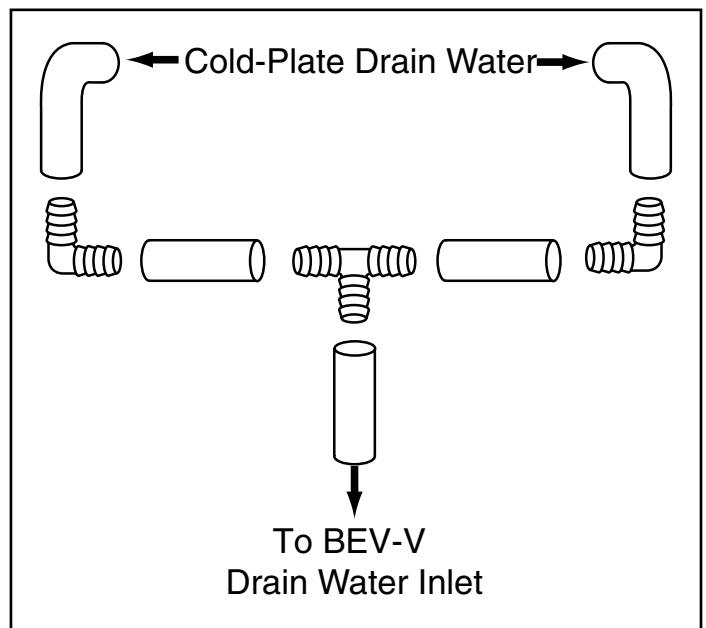

Figure 4. Manifold Construction
3. Construct a manifold as shown in Figure 4 to re-route the cold plate melt water under the dispenser, following the syrup lines, and under the cabinet to be attached to the BEV-V drain water inlet.